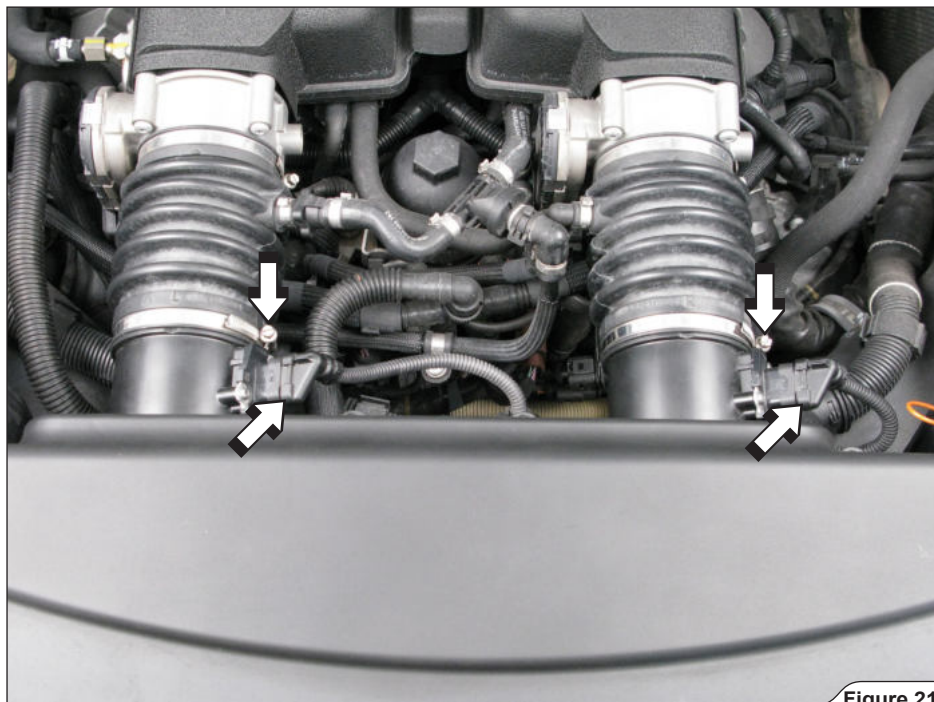

Figure 21
14. Unscrew the marked tape clamps on both sides of the vehicle and disconnect the air mass meter connectors (Figure 21).